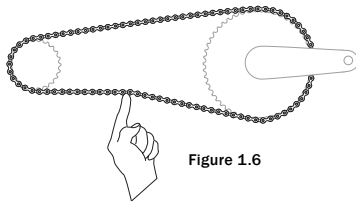

Figure 1.6
• Coaster brake: There should be between 6-12mm (0.25-0.50 in) total vertical movement in the middle of the chain (Figure 1.6).